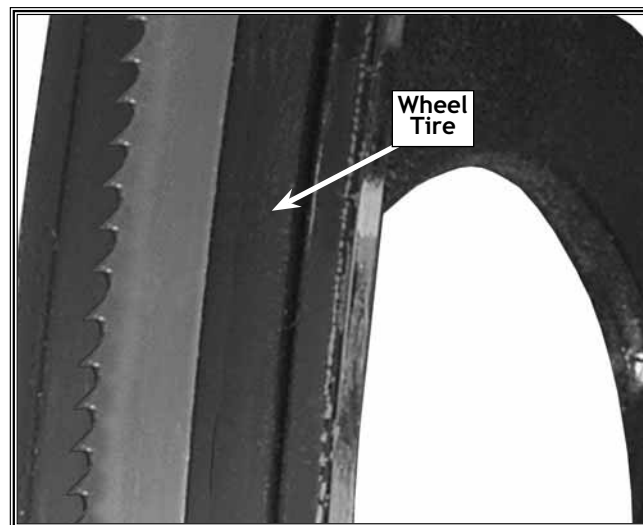

Figure 12. Blade centered on wheel tire.
4. While looking at blade position through the tracking window (see **Figure 12**), slowly rotate the upper wheel by hand. **Note:** Tracking-knob clockwise rotation makes the upper wheel tilt inward at the top and moves the blade to the right. Tracking-knob counter-clockwise rotation makes the wheel tilt outward at the top and moves the blade to the left.
6. Repeat **Steps 4 and 5** until the blade tracks slightly to the front of the center of the rubber tire. See **Figure 12**.